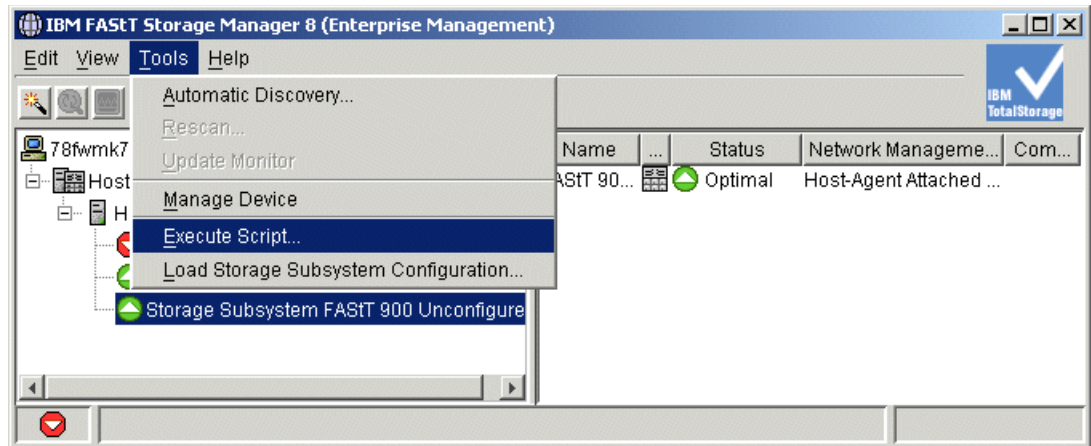

Figure 4-11 Starting the Script Editor
2. Click **Tools -> Execute Script** as shown in Figure 4-11, or right-click and select **Execute Script**.